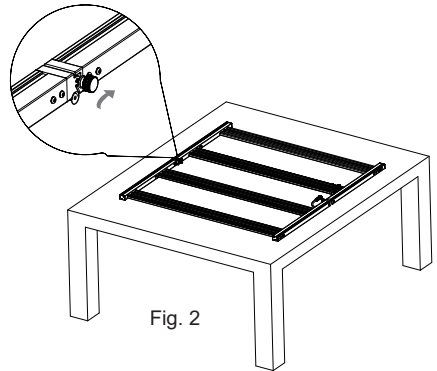

Fig. 2
- Use Hinge fastener (Part C) to fasten hinge hole on both side hinges (Fig. 2).